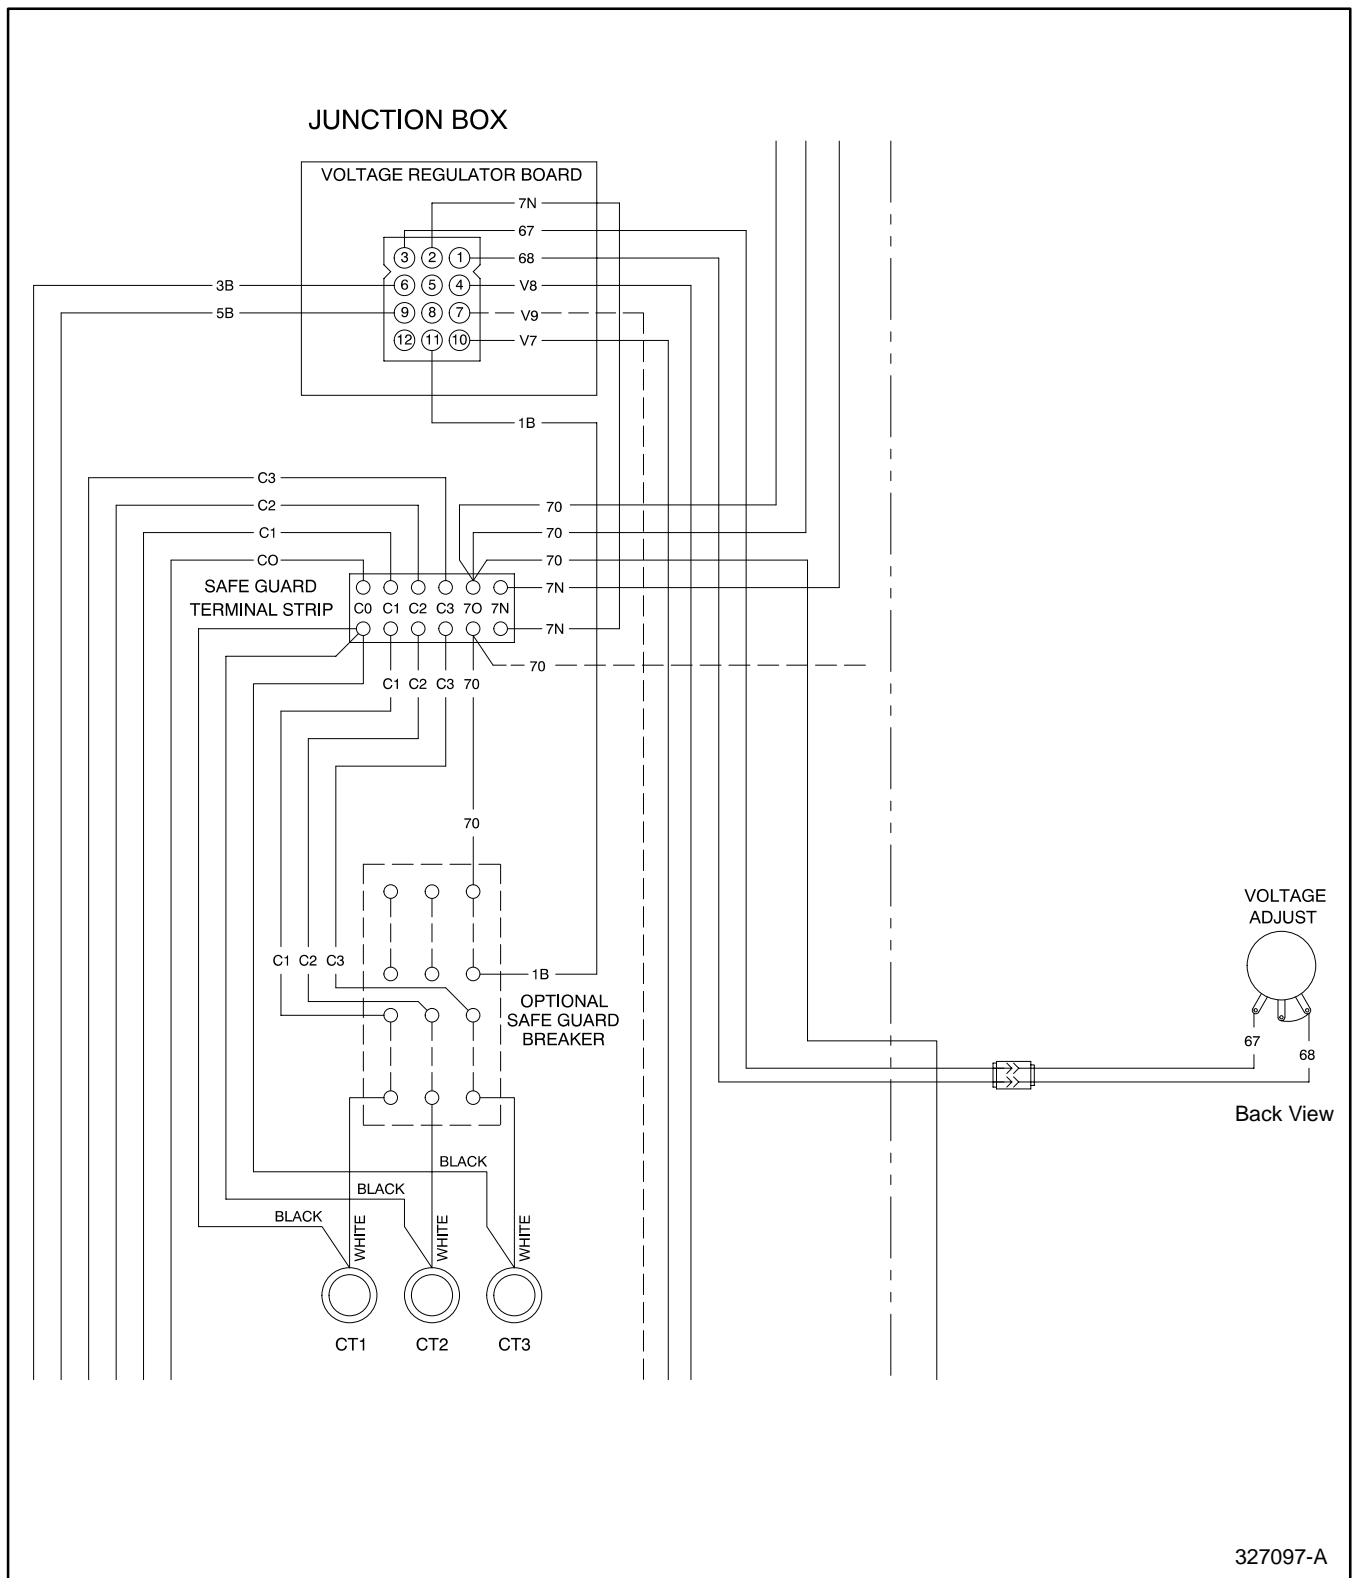

Figure 3. Wiring Diagram (20-300 kW)
- Connect remote potentiometer to leads (67 and 68) as shown in Figure 3. The maximum recommended wire length from remote potentiometer to voltage regulator in generator junction box is 15 feet (4.6 m). Secure leads with cable tie (X-468-1). Install jumper wire on potentiometer between center lug and lug with lead 68 (as viewed from the back of the potentiometer).